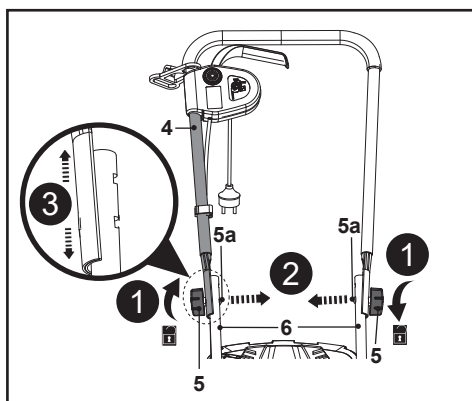

Fig. 9
1. Hold the upper handle bar (4) with one hand.
2. Unscrew the lock knob (5) in an anti-clockwise direction, then take off the lock knob (5) and mounting bolt (5a) afterwards (Fig. 9, steps 1, 2).
3. Chose the other mounting hole of the lower hand bar (6) to assemble the upper handle bar (4) for desired handle height (Fig. 9, step 3).